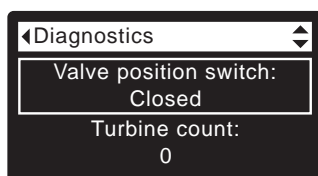

FIG. 102
2. Press the DOWN (▼) button to scroll through the list until **Valve position switch** is displayed (See Figure 102).